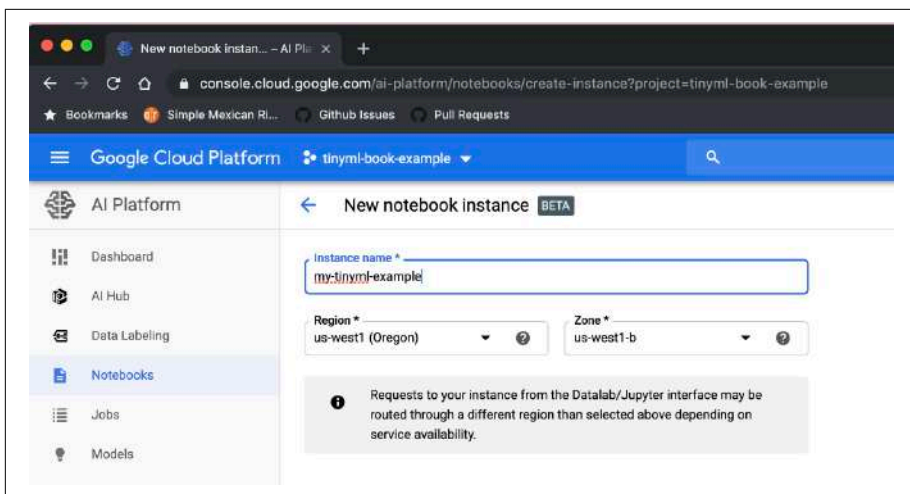

Figure 10-4. The naming interface
6. On the “New notebook instance” page, in the “instance name” box, give your machine a name, as illustrated in Figure 10-4, and then scroll down to set up the environment.